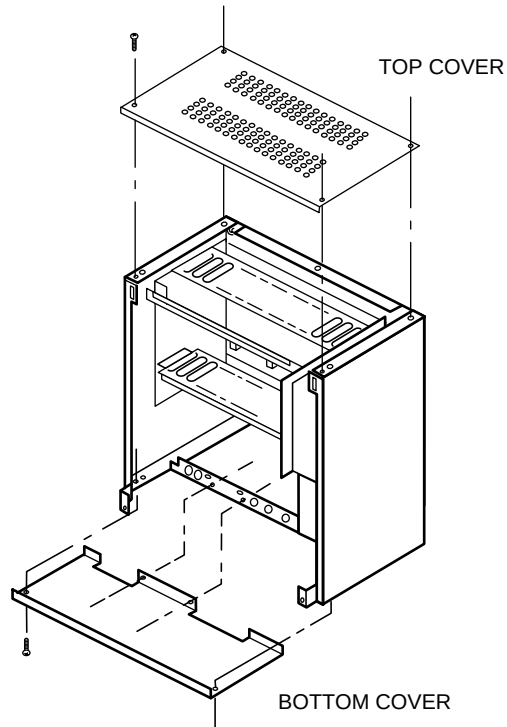
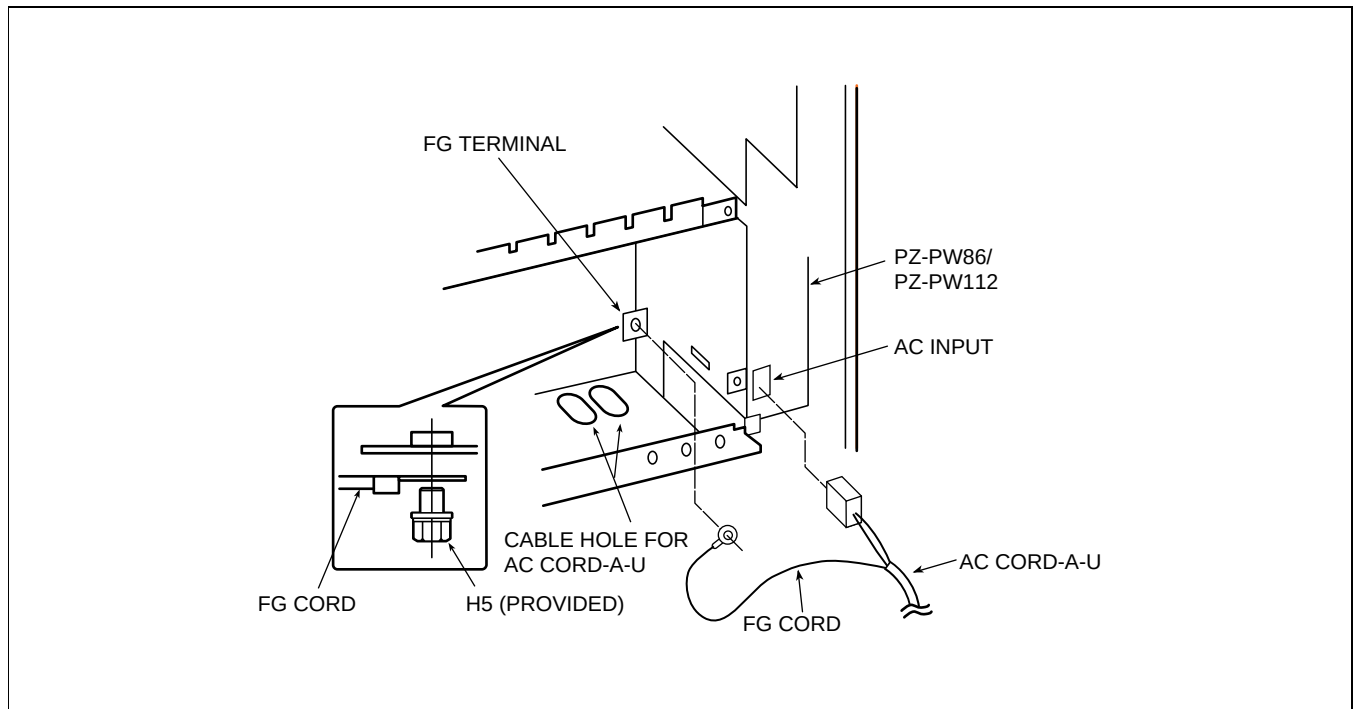

Figure 003-3 Connecting Covers
Figure 003-4 Connecting AC CORD to PIM
- (2) Before mounting the PIM, connect the TOP COVER, BOTTOM COVER and AC CORD-A-U to the PIM as shown in Figure 003-3 and Figure 003-4.
- (2) Connect the TOP COVER, BOTTOM COVER and AC CORD-A-U to the PIM as shown in Figure 003-3 and Figure 003-4.